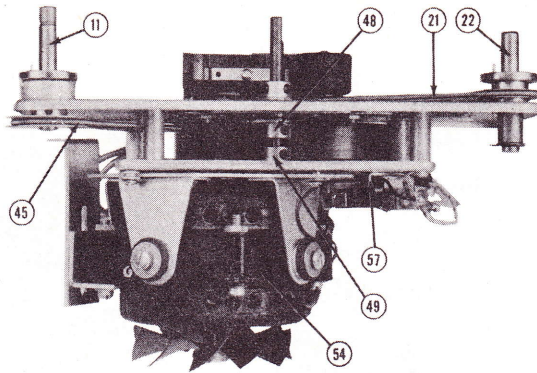

Figure 3
The forward stop lug (57), Figure 3, should be set so the motor mounting assembly (51) comes to a rest position against it as soon as the drive roller (56) makes firm contact with the flywheel (39). Excessive pressure against the flywheel will prevent the motor from starting when the control lever is pressed quickly into the "Forward" position. Insufficient pressure will result in a slippage and "Wow." The best setting is to adjust the forward stop lug (57), Figure 3, 1/16" from the edge of the swing plate (51) at the point when the drive roller begins to touch the flywheel.